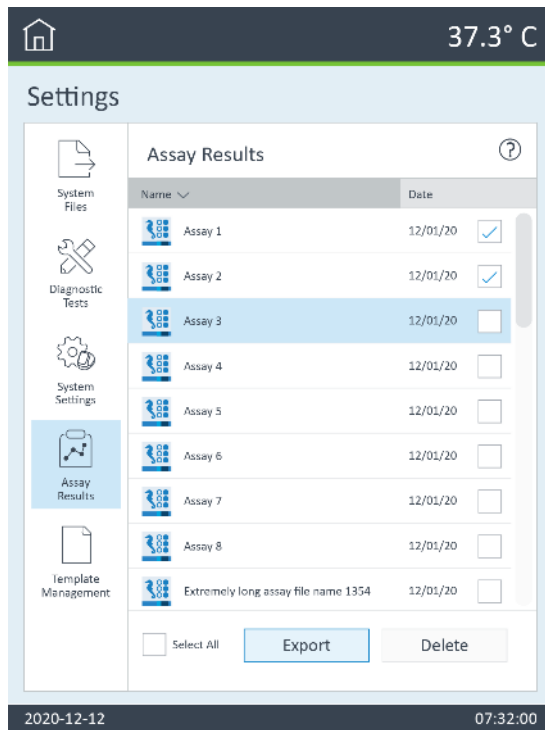

Figure 24. Assay results view.
- Assay results:** Individual assay results can be viewed by clicking the small check box next to the result file to view and click **View**. See Figure 24.